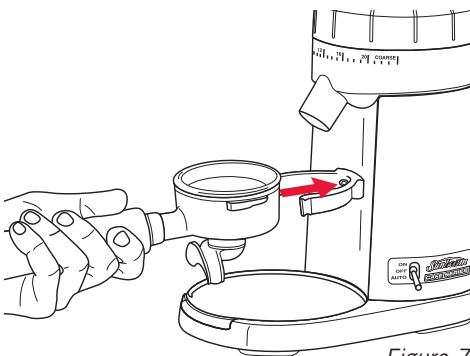

Figure 7
12. To grind coffee, press the group handle against the button located in the centre of the group handle locator, see figure 7.